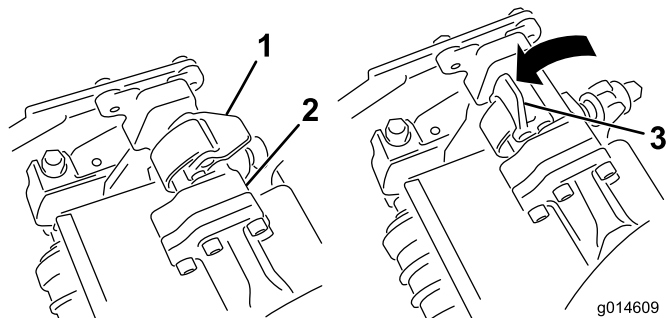

Figure 11
5. With the latches on the suspension-arm bar pointing up (i.e., open) (Figure 11), push the suspension arm
6. Close the latches down and around the cutting-unit bar and lock them in place (Figure 11).